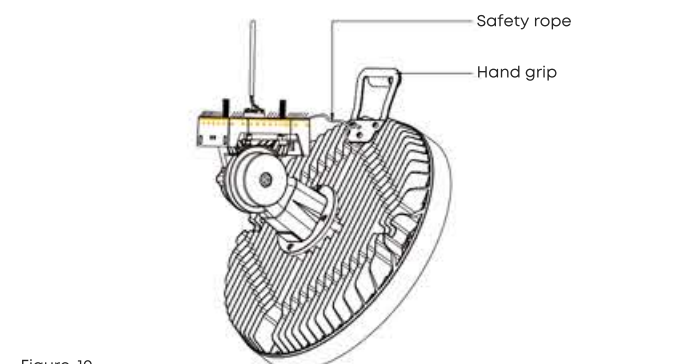

Figure-10
- Fasten the hand grip with the safety rope, and fasten the another end of the safety rope to an appropriate position on the pole or bar, as shown in Figure-10.